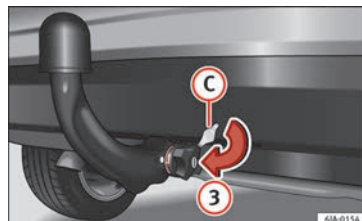

Fig. 199 Placing the key slot cover.
- Place cover **C** over the manual regulator lock in the direction of arrow **3** » **Fig. 199**.